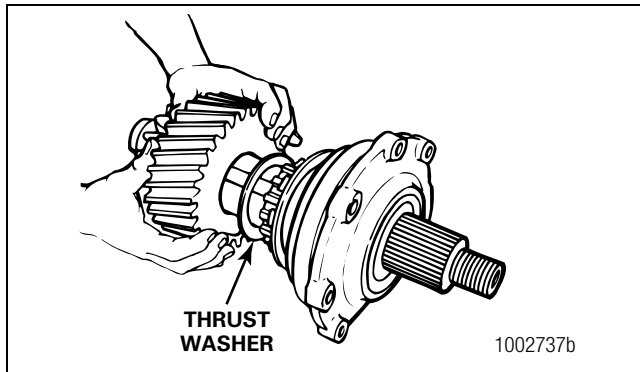

Figure 3.32
5. Remove the helical drive gear from the input shaft. Remove the thrust washer from the gear. Figure 3.32.